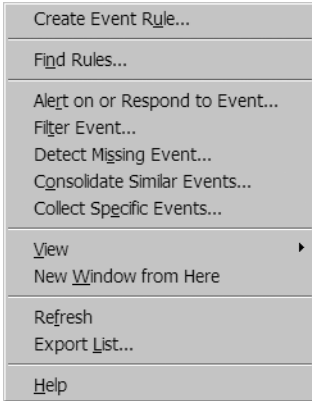

Figure 3-3. *Selecting the Create Event Rule option*
1. Under ACME SNMP in the MOM Administrator Console, right-click Event Rules. From the pop-up menu, select Create Event Rule. This is shown in Figure 3-3.